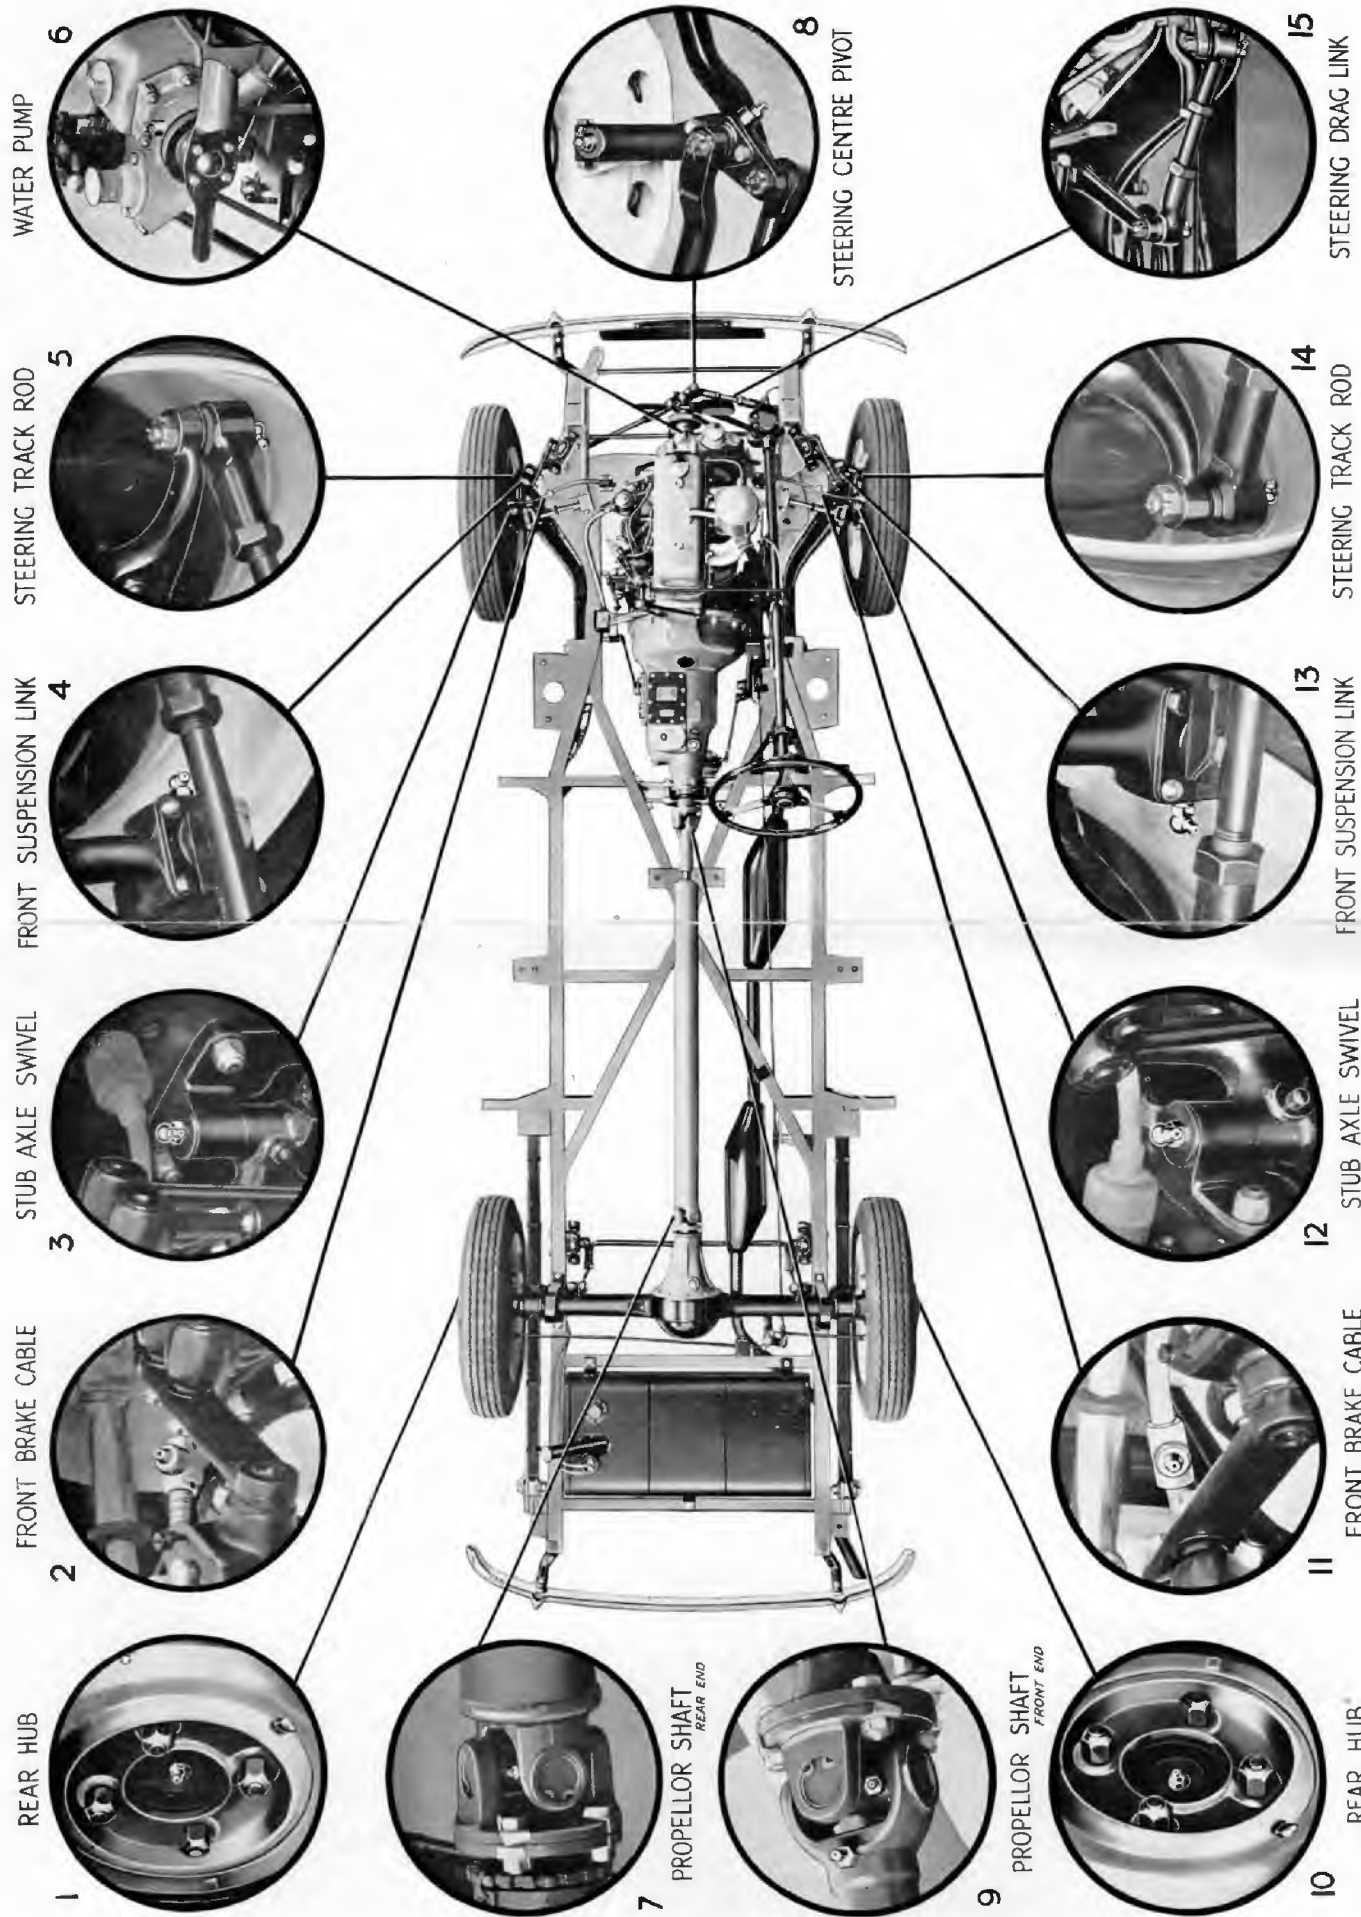

Fig. 54
3. Grease water pump grease nipple. (See Fig. 54 No. 6).
6. Grease nipple on the front end of the Propellor Shaft. (See page 57 and Fig. 54 No. 9). Recommended lubricant : Daimler R.B. Grease.
8. Grease Front Suspension (2 Grease Nipples). (See Fig. 54 No. 4 and 13).
12. Grease steering linkage grease nipples (8). (See page 68 and Fig. 54 Nos. 3, 5, 8, 12, 14, 15.)
13. Grease Front Brake Cables. (See page 72 and Fig. 54. Nos. 2 and 11.)
9. Grease Rear Wheel Hub Grease Nipples. (See page 60—see also Fig. 54 Nos. 9 and 10.)
1. Grease the two universal joint grease nipples. (See page 57 and Fig. 54 Nos. 7 and 9.)